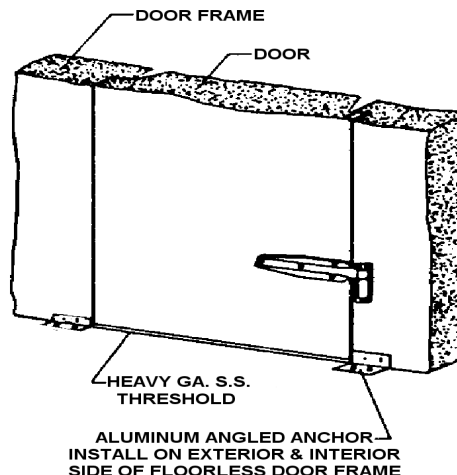

FIGURE 10 - DOOR LAYOUT
4. Anchor the door sections as shown in Figure 10 on Page 6. Aluminum angles are provided to anchor the exterior and interior side of the door frame jambs. After the door frame is leveled and square, secure the bottom of the frame with the aluminum angled anchors. This will prevent the frame from shifting position.
4. Anchor door sections as outlined in Section B, step 4; Figure 10, Page 6.